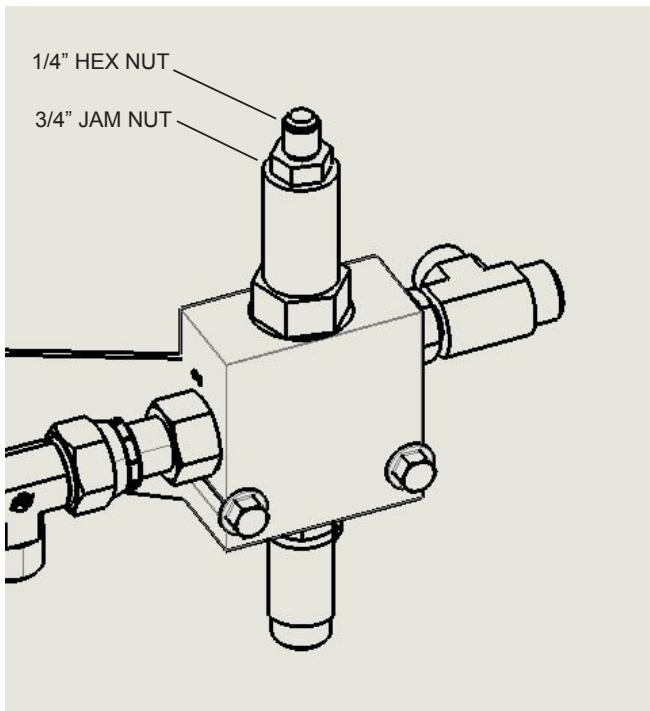

Figure 33. Steering Pressure Adjustment
4. Loosen 3/4" jam nut on steering valve (Figure 33).